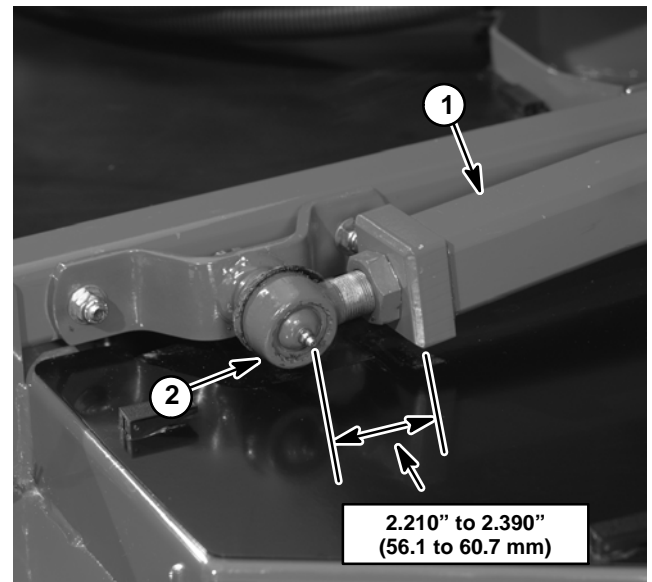

Figure 4
6. If removed, install ball joint to lift arm. Distance from end of lift arm to center of ball joint should be from **2.210" to 2.390" (56.1 to 60.7 mm)** (Fig. 4). Make sure that ball joint is horizontal and that stud is centered in ball joint. Install deck before torquing ball joint jam nut (item 24).